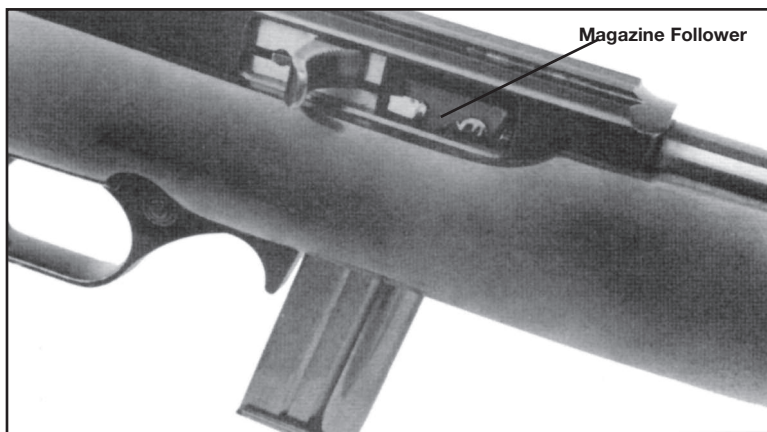

Fig. 6
NOTE: It is easier to install and remove the magazine from the firearm if the bolt is locked at its most rearward position by its operating handle. (Fig. 6 & 7)
If an empty magazine is installed, the magazine follower will keep the bolt in an open position. (Fig. 6) To remove the magazine, follow the instructions for your particular model in "To Remove Clip Magazine" section of this manual.
Should any cartridge fail to fire, keep the muzzle pointed in a safe direction for at least thirty (30) seconds in case the cartridge is a “hangfire” (delayed firing of the cartridge after being struck by the firing pin.) Then, remove the magazine (as it may still have loaded cartridges), pull the operating handle fully rearward and lock the bolt in the open position (Fig. 6 & 7) and extract and eject the misfired cartridge. Move the safety button fully to the right to the “ON” (SAFE) position. Segregate the misfired cartridge from other ammunition. Do not attempt to refire a misfired cartridge.
After the last cartridge has been fired, the clip magazine follower is designed to keep the bolt in the open position. (Fig. 6)
To interrupt shooting and unload the firearm, keep the muzzle pointed in a safe direction, move the safety button fully to the right to the “ON” (SAFE) position, remove the magazine and pull the bolt to its most rearward position, extracting and ejecting the cartridge in the chamber. Push the operating handle inward to hold the bolt open. (Fig. 6 & 7)